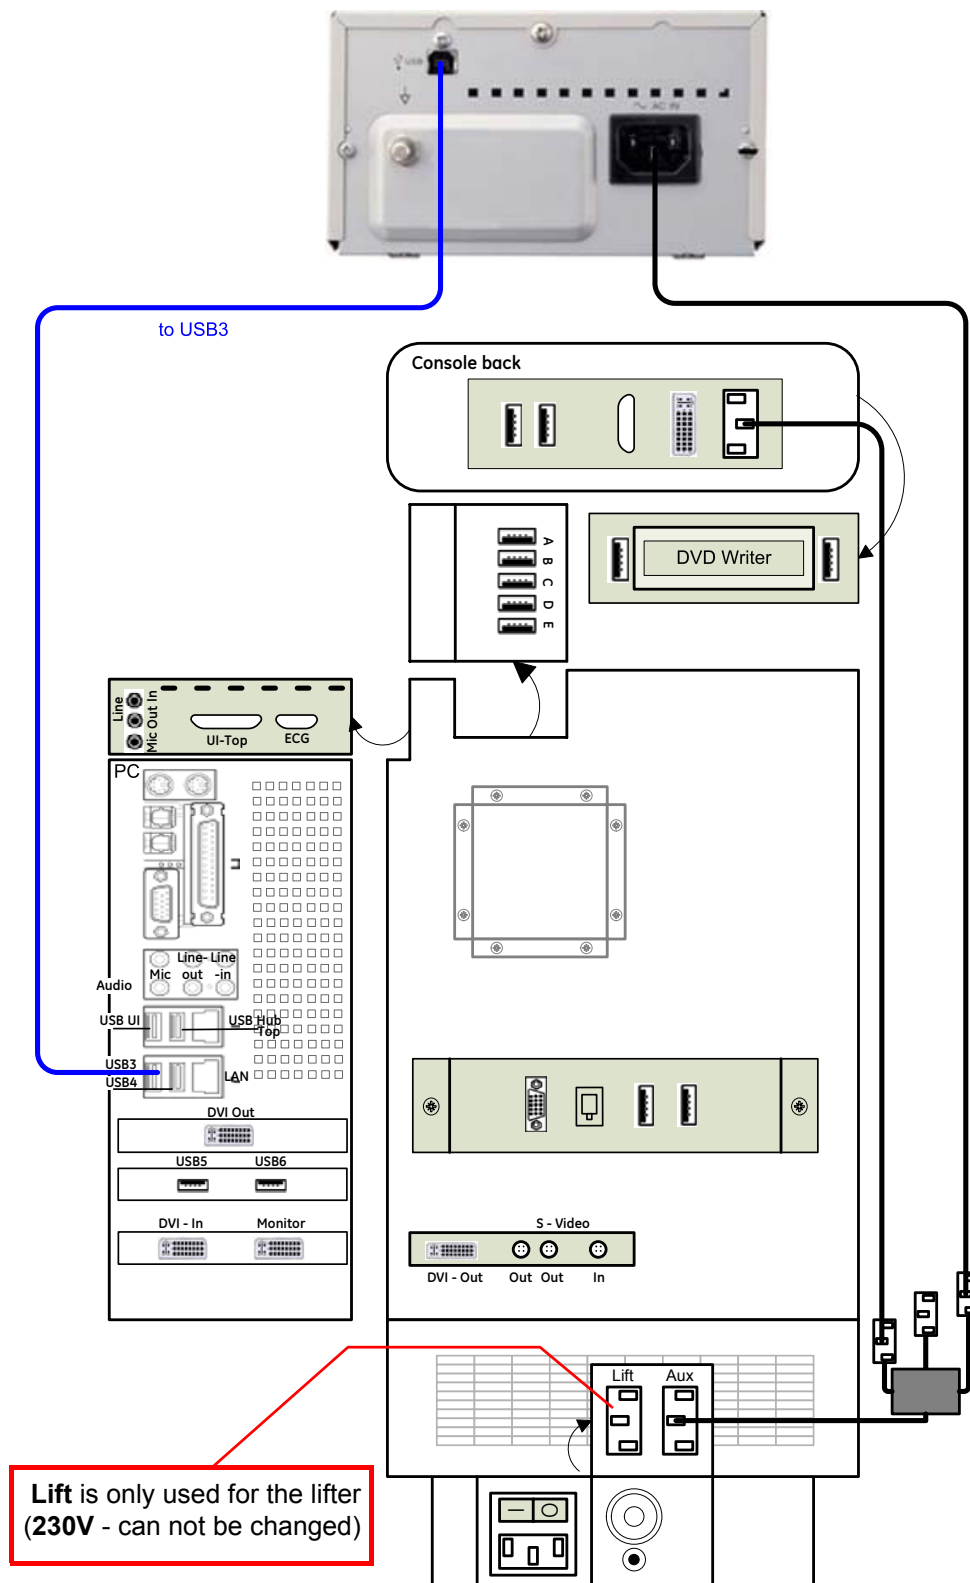

Figure 3-8 B&W Printer connection (BT06: TYAN PC-Motherboard installed)
- if “**Tyan**” PC-Motherboard is installed, see: Figure 3-8 on page 3-13